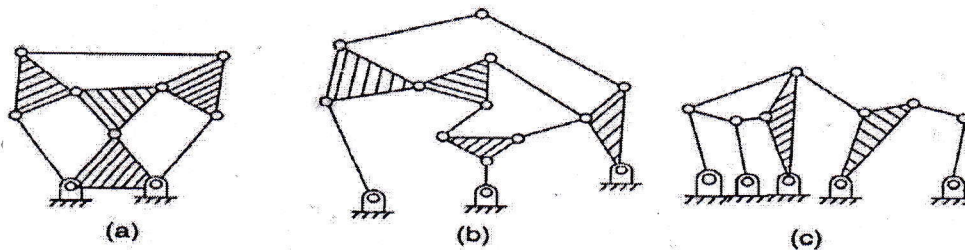

Figure 1.1
- (1) For the kinematic linkages shown in *Figure 1.1*, find the number of binary links ( $N_b$ ), ternary links ( $N_t$ ), other links ( $N_o$ ), total links  $N$ , loops  $L$ , joints or pairs ( $P_1$ ), and degree of freedom ( $F$ ).